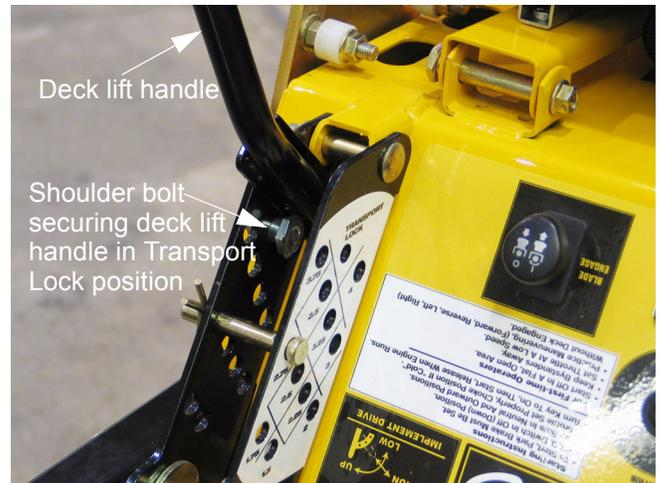

Figure 14.8
- 14.8. Confirm that the deck height control is in the highest (Transport Lock) position, minimizing tension on the lift-assist springs. When raising the deck lift handle, remove the clevis pin from above it with caution because the handle will be under tension from the lift-assist springs. See Figure 14.8.